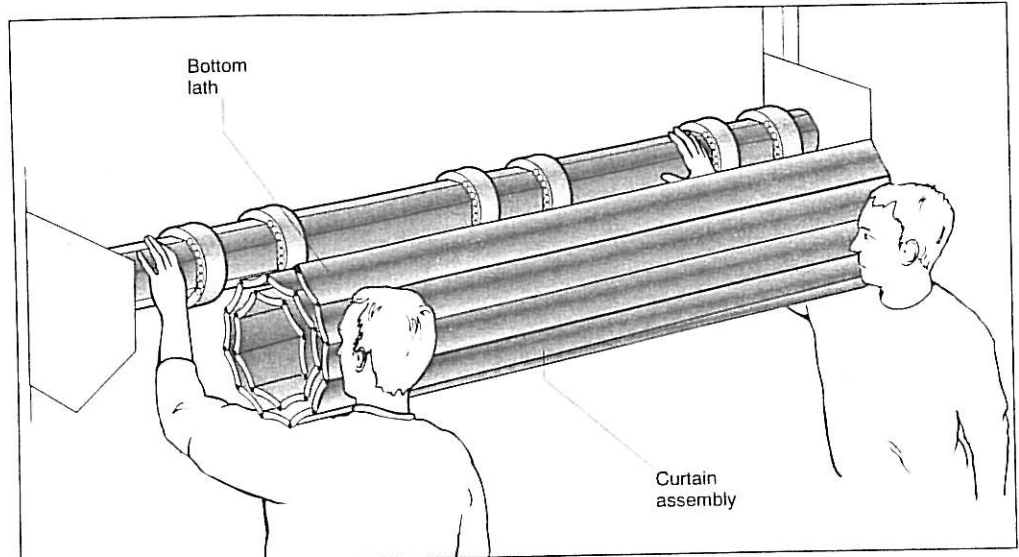

Fig 16
- 6.3.2 Using 2 people carefully lift the curtain assembly up level with the axle. Practice has shown that it is best to place one hand on the axle, keeping that arm straight, and support the curtain roll on that shoulder (see Fig 16).